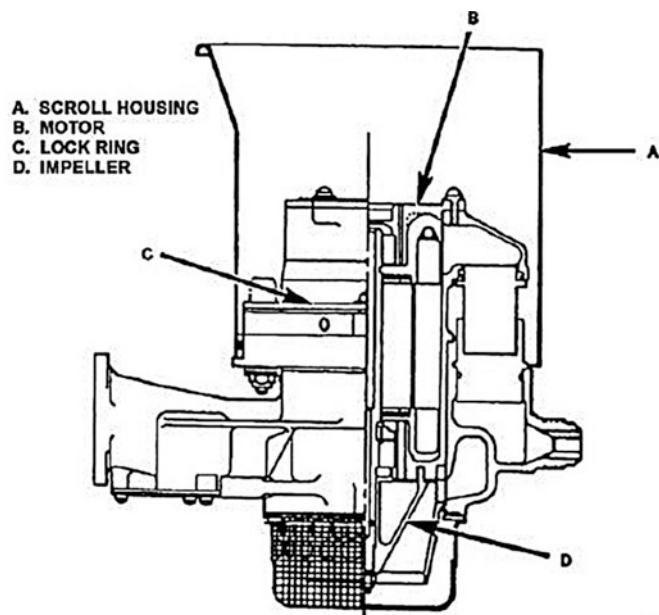
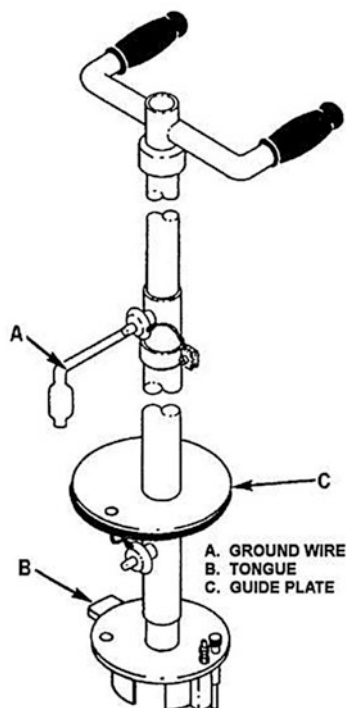

Figure 1-3. Quick-change centrifugal pump.
Figure 1-4. Pump installation and removal tool.
Boost pumps on some older model aircraft require tank entry before replacement. This operation is time-consuming, and there are always hazards present when tank entry is required. To overcome this danger and reduce the time needed to replace a pump, quick-change type pumps are being incorporated on some aircraft. Figure 1-3 shows a cross-sectional view of a quick-change, bottom-mounted, completely submerged fuel pump. It has provisions for the removal and replacement of the complete motor and impeller unit from the top of the fuel tank without either physically entering or completely defueling the tank.
The pump is set in a scroll housing (A) which is attached to the bottom of the fuel tank. The scroll housing serves as a reference guide when the pump is moved. The motor (B) and impeller (D) are held and locked to the housing by a lock ring (C). To remove the pump, the access plate located directly above the pump in the top surface of the wing is removed first. Then the pump removal tool (fig. 1-4) is grounded with a grounding wire (A) and inserted through the opening until the guide plate (C) is seated in the access opening. When the tool is lowered further (sliding through the guide plate), it can enter the scroll housing. It is guided by the tongue (B), which must follow in a guide slot in the scroll housing. The removal tool engages the lock ring (C) (fig. 1-3).